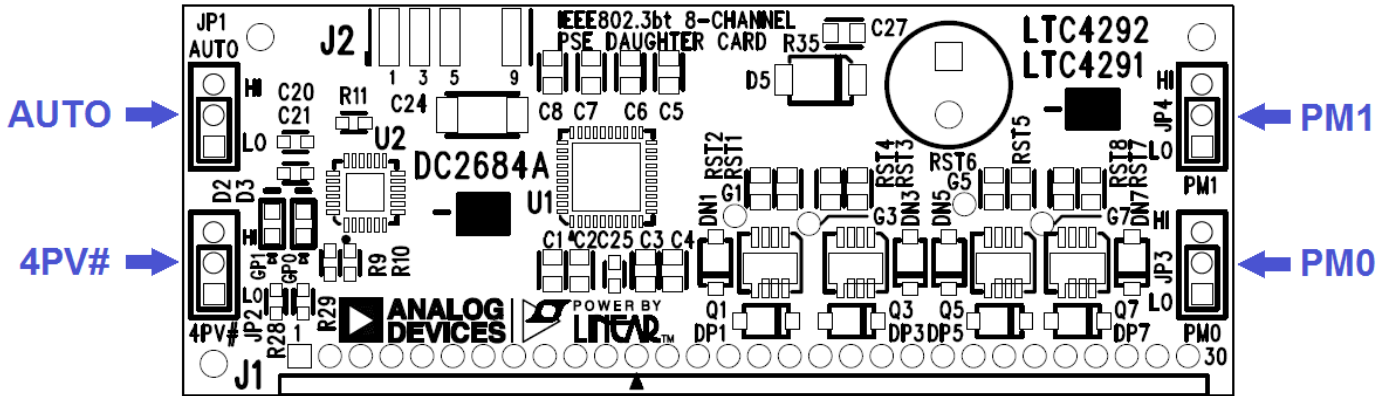
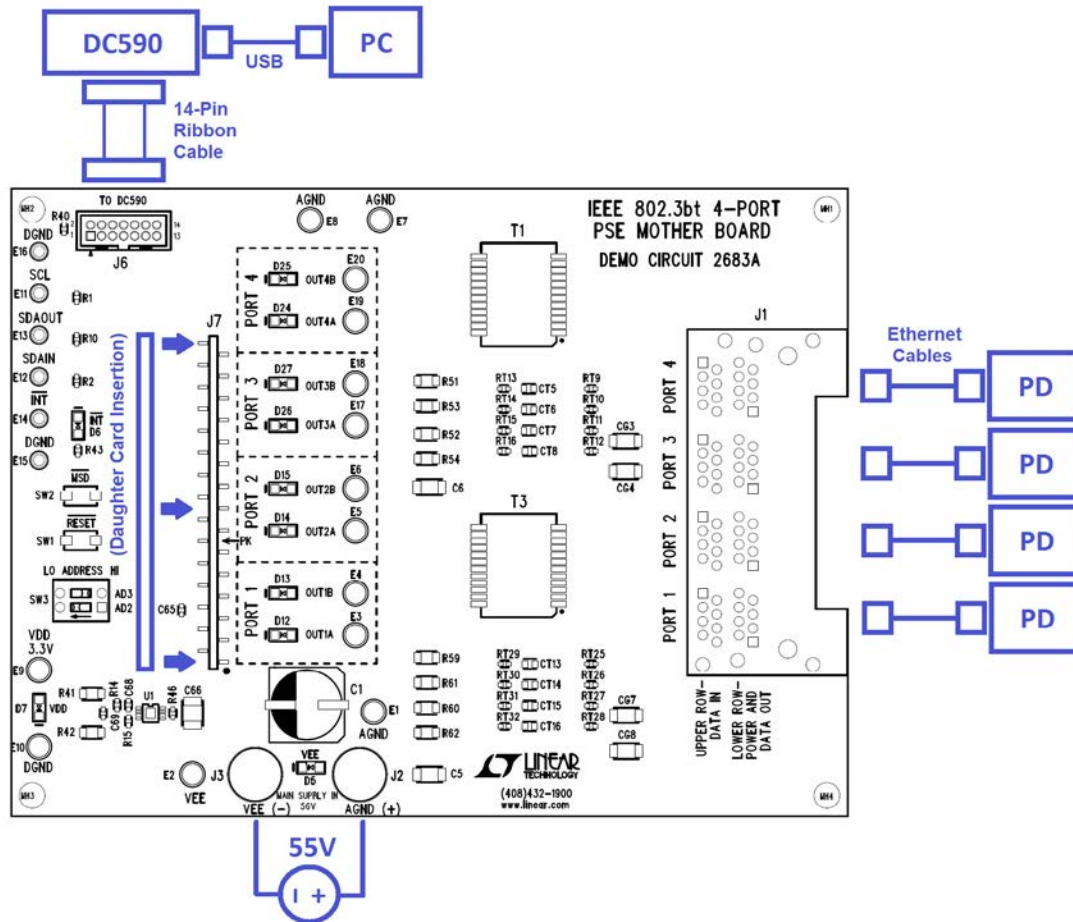

Figure 1. DC2684A-B Jumpers: AUTO, 4PV#, PM0 and PM1
Figure 3. DC2685B Kit Connections
Follow the quick start procedure below for basic operation of the DC2685B kit. Refer to Figure 1 through Figure 3 and Table 1 through Table 4 for proper equipment setup.
1. On the DC2684A-B daughter card set AUTO jumper JP1 (Figure 1) to a selected AUTO mode setting shown in Table 1.
2. On the DC2684A-B daughter card set 4PV# jumper JP2 (Figure 1) to a selected 4-Pair Valid setting as shown in Table 1.
3. On the DC2684A-B daughter card set PM1 jumper JP4 and PM0 jumper JP3 (Figure 1) to the power mode for evaluation specified in Table 2.
5. Connect a supply to the motherboard with the positive rail to AGND (+) and negative rail to  $V_{EE}$  (-) as shown in Figure 3. Use a power supply capable of sourcing the maximum delivered power for all four ports set by JP3 and JP4 on the daughter card (or I2C configured power). Ramp the supply up to within the recommended voltage range specified in Table 3.
8. Connect the DC590 to the DC2683A at connector J6 with a 14-pin ribbon cable as shown in Figure 3 and open the QuikEval GUI. A GUI for the LTC4291-1/LTC4292 is brought up by QuikEval. (Follow the DC590 demo manual instructions if this has not been previously setup.)
9. Connect up to four PDs to the DC2685B RJ45 connector J1, bottom row ports 1-4 as shown in Figure 3.
The  $V_{EE}$  supply is the main PoE supply and connects to the DC2683A with the positive rail to AGND (+) and the negative rail to  $V_{EE}$  (-) as shown in Figure 3 of the Quick Start Procedure. The voltage must be within the range shown in Table 3 depending on the application PSE type. For full load testing at each port, choose a power supply that is set with a current limit higher than the maximum allowed output power at each port.